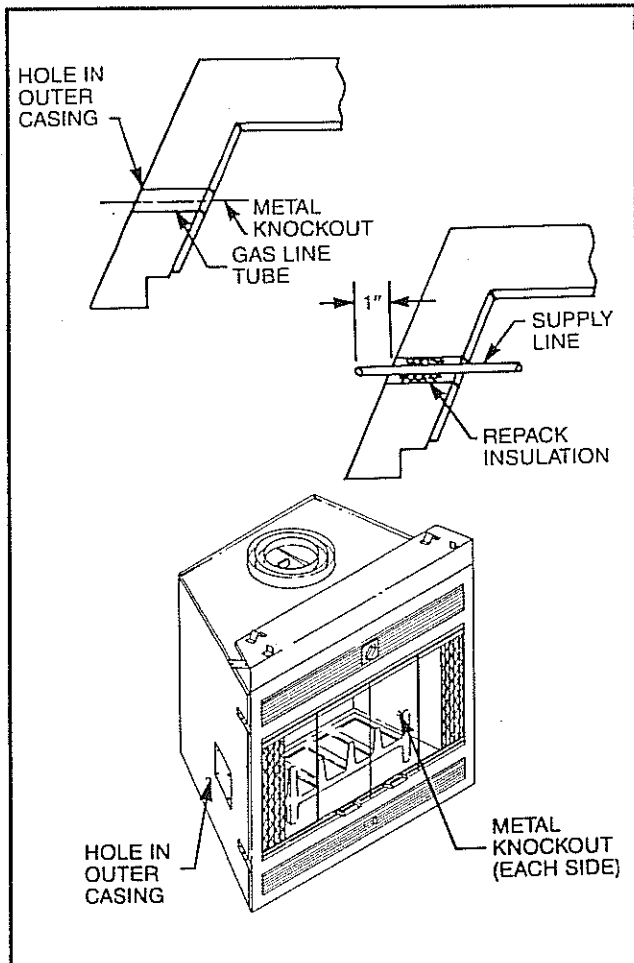

Fig. 29. Install iron pipe gas line through provided hole in either side of fireplace.
Locate the gas line hole in the outer casing of the fireplace and remove the insulation from the gas line tube. (Refer to Fig. 29).
NOTE: The gas pipe should not come in contact with any wood structure until it has reached a point at least one (1) inch away from the fireplace side. (See Fig. 29 for installation clarification.)